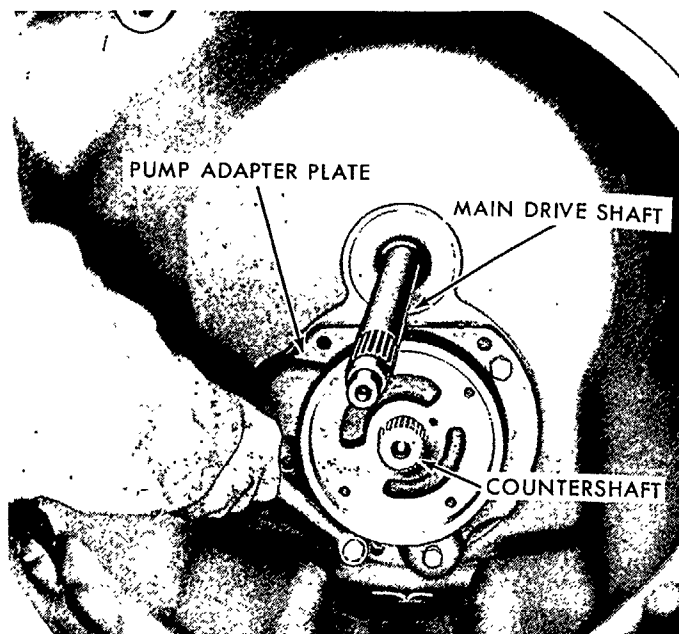

Figure 90
2. Remove the five bolts that secure the adapter plate to the case. Remove the plate by using two retaining bolts as jack screws as shown in Figure 90.
3. Remove the main drive shaft from the transmission case. See Figure 90.